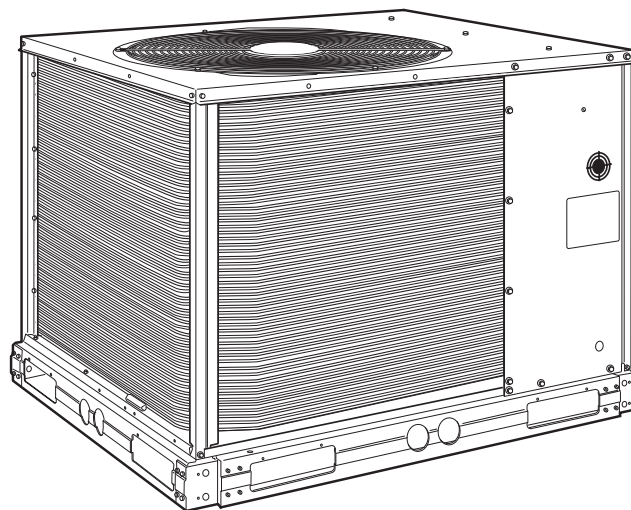

Fig. 1 — Typical Unit (569C072 Shown)
1. Read and become familiar with these installation instructions before installing this unit (Fig. 1).